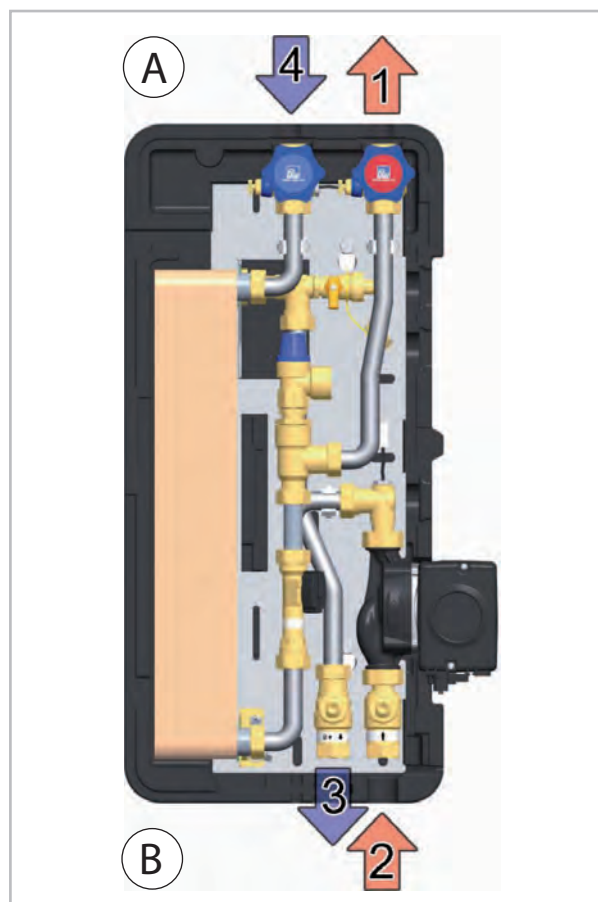

Fig. 5: Piping of the fresh water station
7. ➤ Connect the pipes of the fresh water module to the system in accordance with Fig. 5.